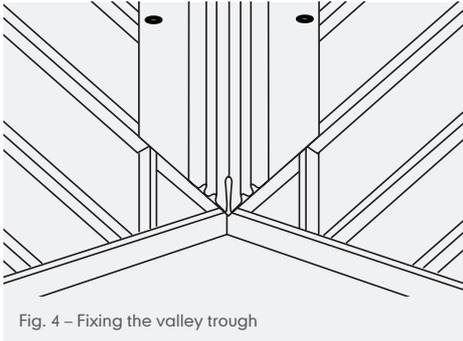

Fig. 4 – Fixing the valley trough
- 5 Fix dry valley trough by nailing outer welts to supporting timbers at 500mm max. centres, and overlapping lead (Code 4) apron by a minimum of 150-200mm (Fig. 4).